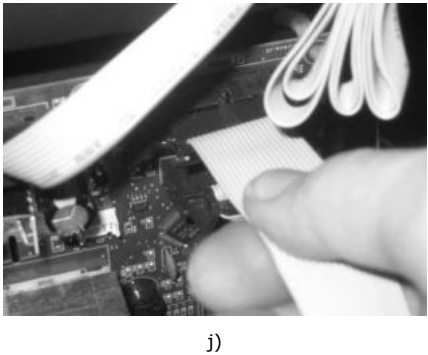

Figure 147 – Installing the programmable thermostat
a) Turn off the unit at the master power switch and remove the right cover of the unit **(see section 10 of this manual)**. Remove the unit's terminals phase (F) and neutral (N).
c) Connect the wires to the ON/OFF contact connector (Figure 147-e); Direct the wires through the groove on the side to the interior of the unit (Figure 147-f);
d) Mount the interface at the appropriate location on the unit and position the remote control (On/Off contact) switch to "remote" (Figure 147-j).